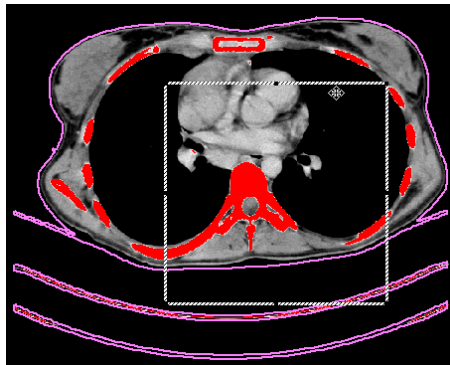

Figure 191 – Moving the rectangle constraint
- Move the rectangle or drag sides to change its size until covers desired area (see Figure 191).